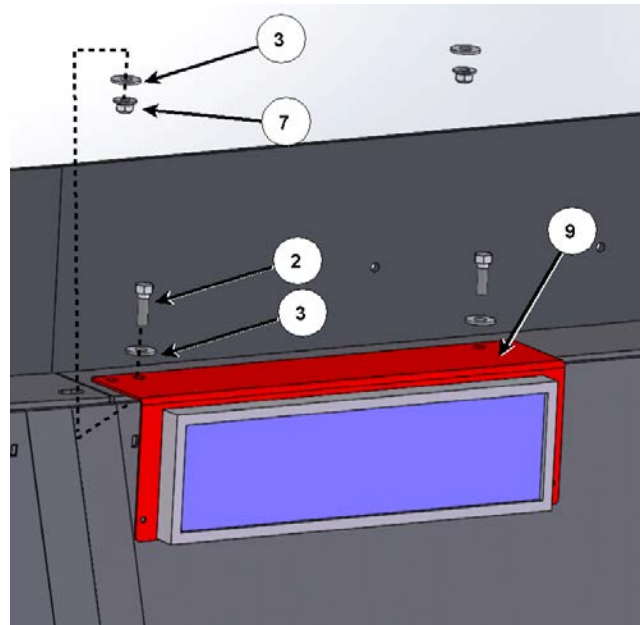
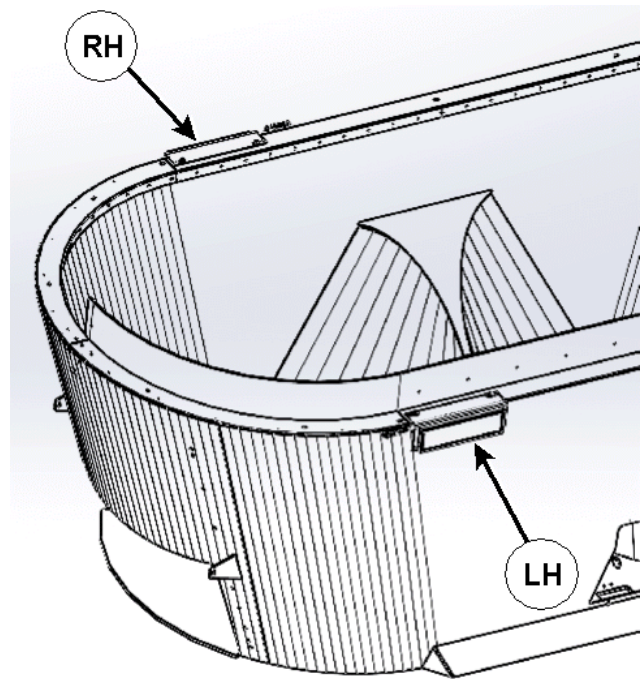

Figure 2: Fasten mounting bracket/display to tub
Figure 3: RH/LH recommended display positions
2. Fasten a mounting bracket/display to two of the top holes in the rim of the tub, as per *Figure 2*.
- a. Place a  $\frac{1}{2}$ " x 1-1/2" hex bolt (2) and  $\frac{1}{2}$ " flat washer (3) through the bracket (9) and into the existing mounting hole on the top of the tub wall.
- b. Fasten the bracket with a  $\frac{1}{2}$ " flat washer (3) and  $\frac{1}{2}$ " flange lock nut (7).
- c. Note: The bracket can be moved forward 20" from the LH/RH positions shown in *Figure 3*, or mounted at any location cable length allows, if preferred. This may require new holes to be drilled.
3. If applicable, fasten the second mounting bracket/display to the opposite side of the tub, as shown in *Figure 3*, or at any preferred location, following the instructions in step 2.